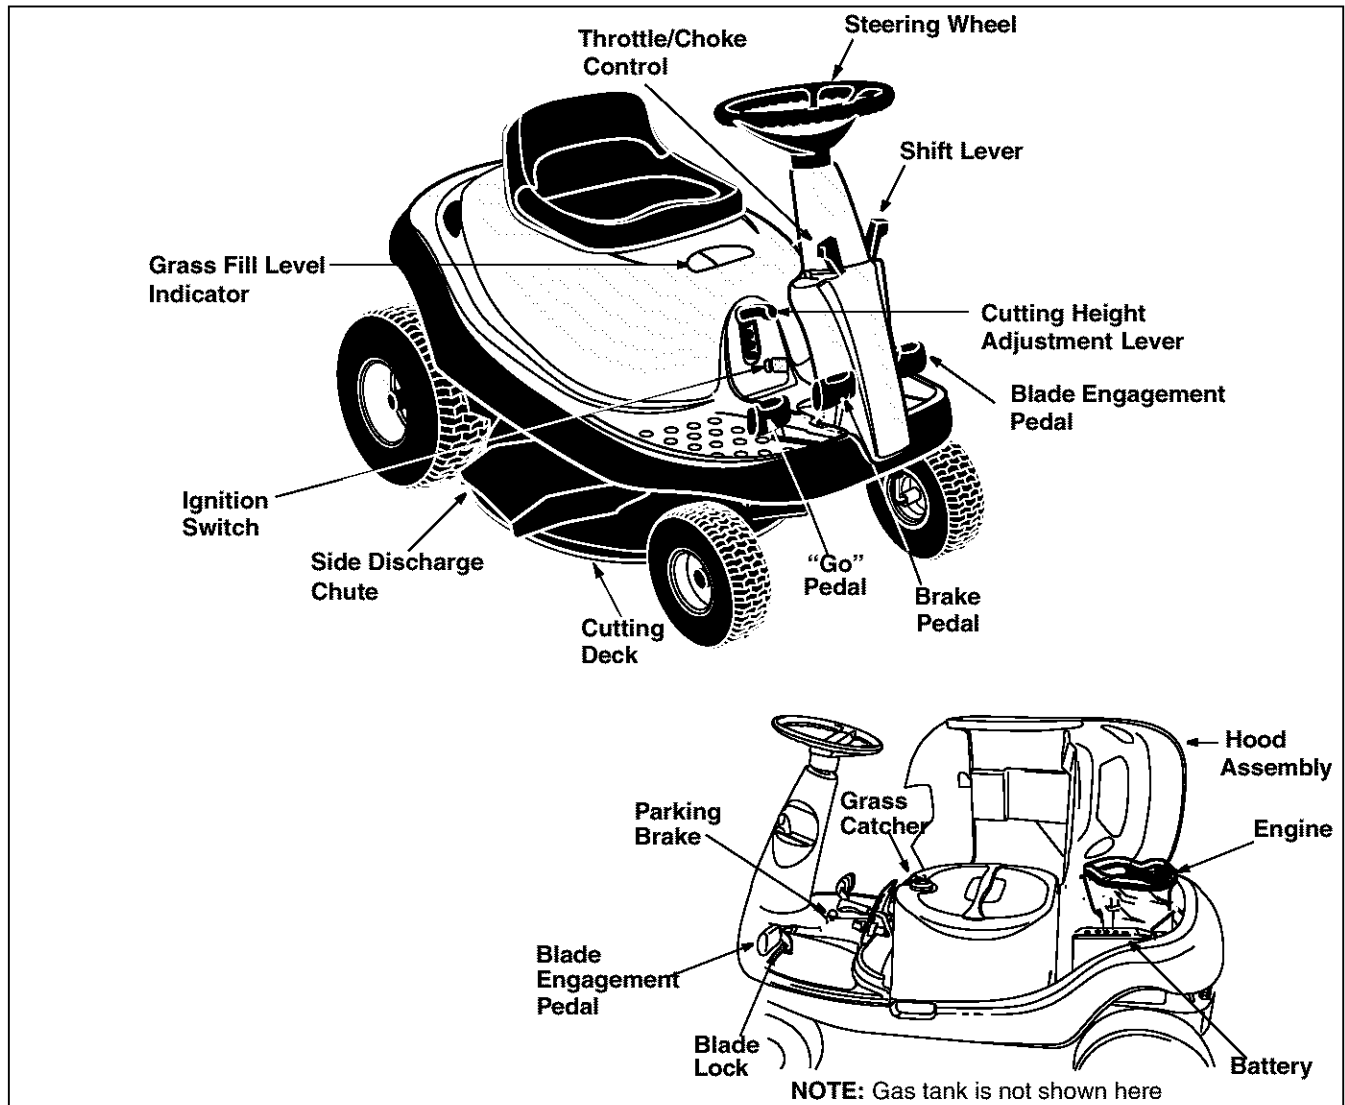

Figure 4
5. Be sure the parking brake is disengaged. See Figure 4 for location of the parking brake.
Compare the illustrations in Figure 4 with your riding mower to familiarize yourself with the location of various controls and adjustments.